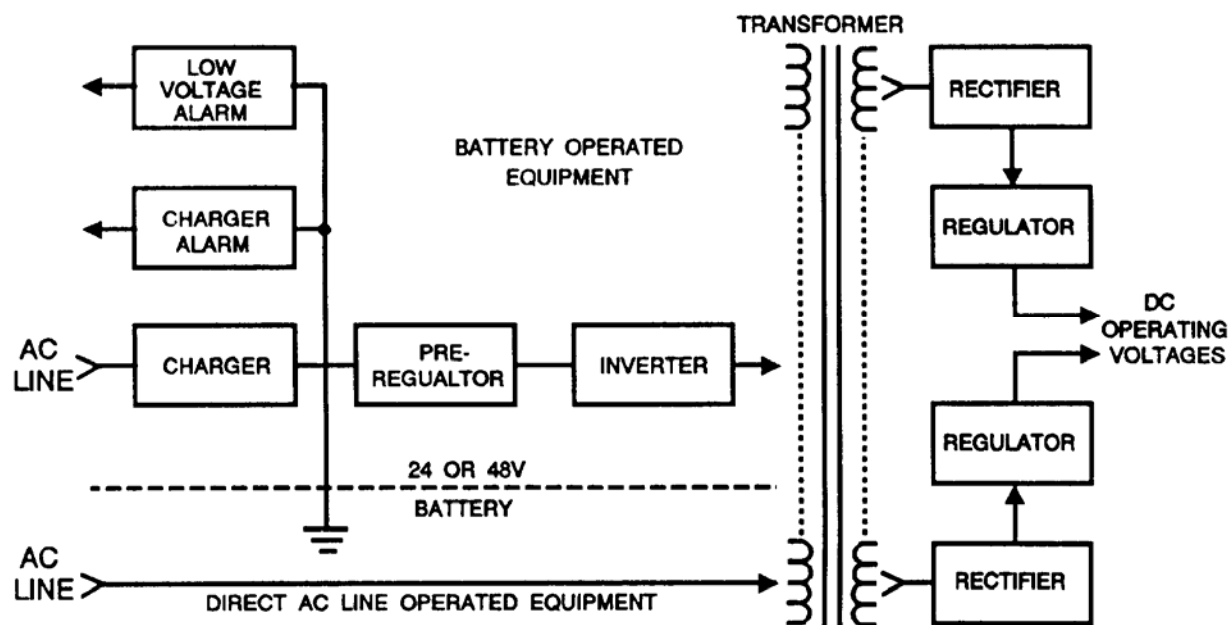

Figure U-4. Typical Power Supply Block Diagram
b. Figure U-4 shows a typical power supply system. AC units consist of a transformer and rectifiers to obtain the unregulated operating voltages. Various types of transistor regulators are used to keep the operating voltages within a narrow range of variation. In DC units, the battery voltage is first converted to AC by a chopper or inverter after whom operation is similar to the AC. Good designs usually employ protection circuits on both input and outputs to protect the power supply from surges, load short circuits, and lightning. The power supply may be separate from the transmitter or receiver or it may be built in.